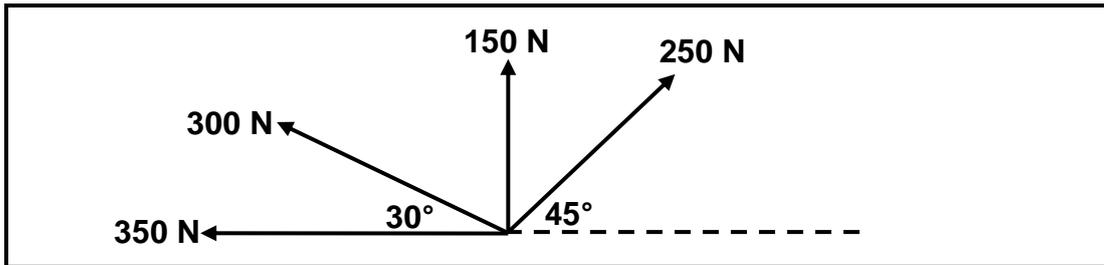

FIGURE 8.1
8.1 FIGURE 8.1 below shows a system of forces with four coplanar forces acting onto the same point. Use calculations and determine the magnitude and direction of the resultant force for this system of forces.
HINT: Draw and complete the diagram in FIGURE 8.1. Show ALL the horizontal and vertical components before you do the calculation.